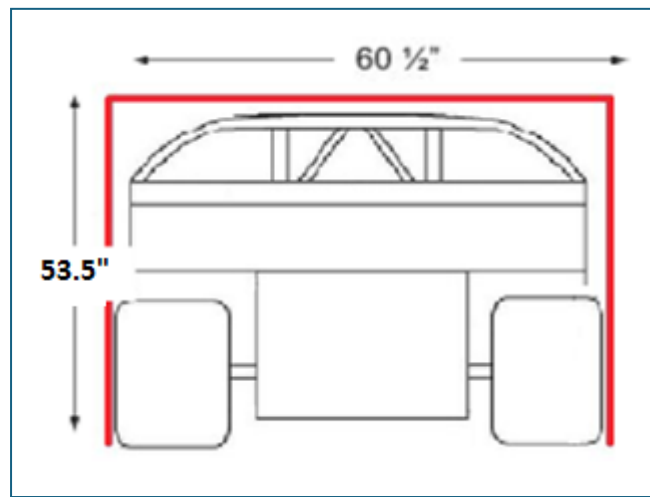

Figure 1
- 6.8** All Modlite race cars in full race trim, weighing 1325 pounds or greater with driver seated, must be able to have the test hoop pass freely (not touch) over the car. The test hoop is 60 .5 inches wide by 53.5 inches high. (*Figure 1*).